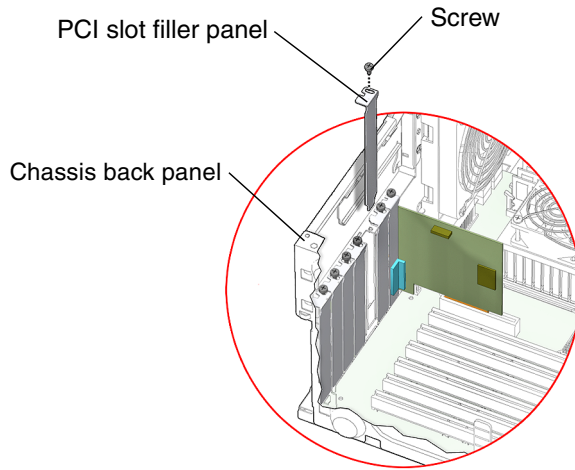

FIGURE 11-30 Installing a PCI Slot Filler Panel
a. Install a PCI slot filler panel (FIGURE 11-30).
3. Remove the chassis PCI slot filler panel, if needed (FIGURE 11-30).